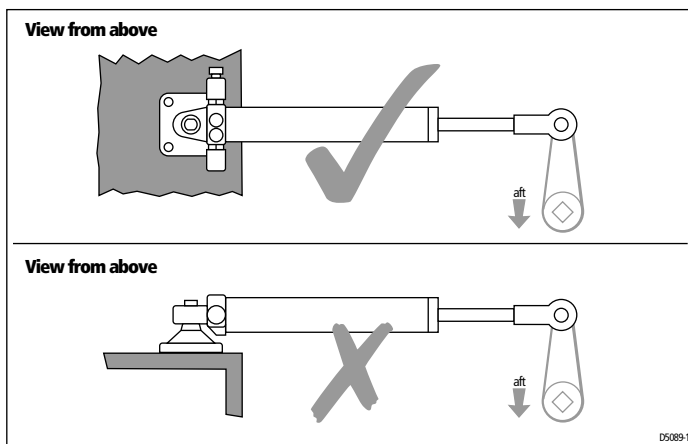

Figure 6: Drive orientation
- You must mount the hydraulic ram horizontally with its mounting foot on a horizontal surface (see *Figure 6*). The swivel joint does not have sufficient movement to position the mounting foot vertically.